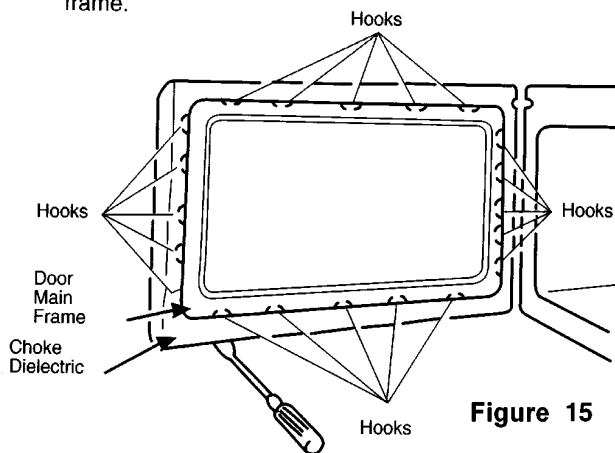

Figure 15
(Figure 15)
- (1) Insert a thin flat-blade screwdriver between the choke dielectric and the door main frame and lift up the choke dielectric to release hooks one by one. (Figure 15)
- (2) Remove the choke dielectric.
- (3) To detach the door cover, Insert a thin flat-blade screwdriver between door cover and the door panel and release the projections inside door cover.
- (4) To detach the door panel, Insert a thin flat-blade screwdriver between the door cover and door main frame.